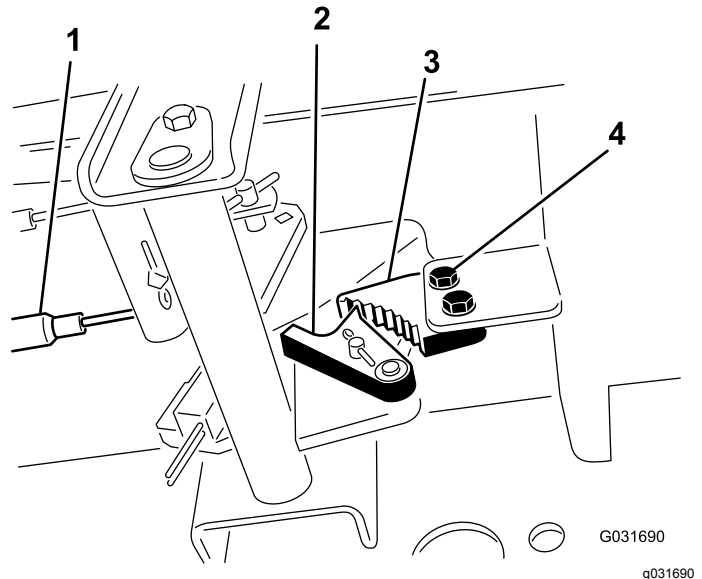

Figure 72
1. Loosen the 2 screws securing the parking brake-pawl to the frame (Figure 72).
2. Press the parking-brake pedal forward until the brake detent completely engages on the brake pawl (Figure 72).